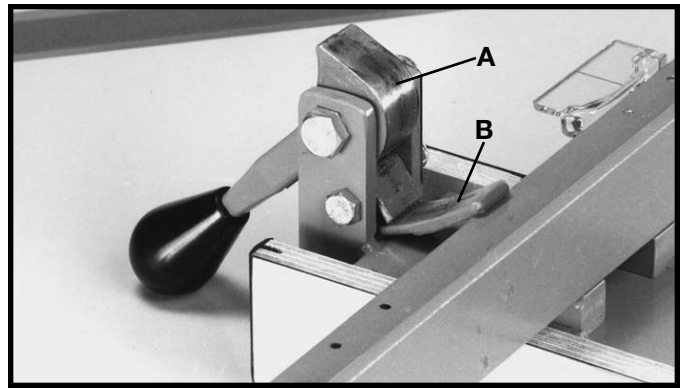

Fig. 102
2. Apply grease to cam lock (A) Fig. 102, and cam foot (B) occasionally to prevent wear.